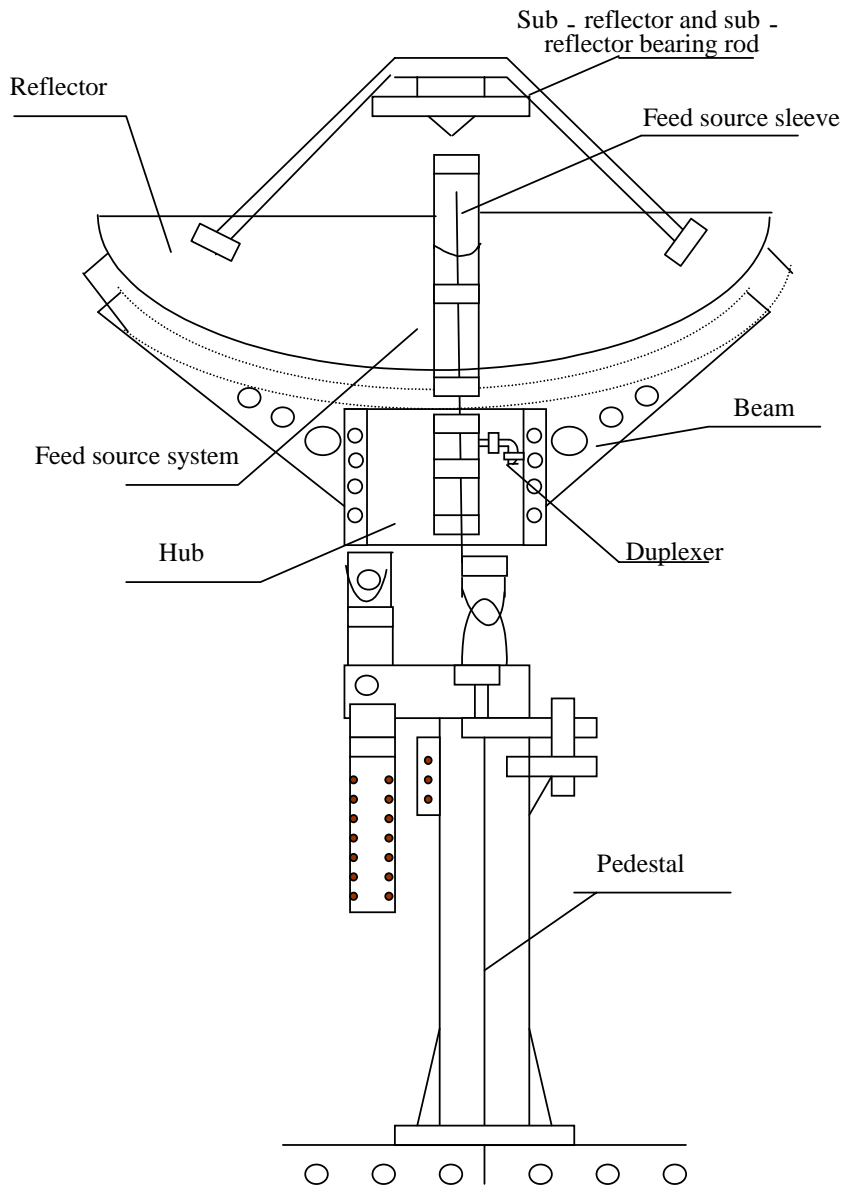

Fig. 2 Completed antenna
2.2. Completed antenna illustration (See Fig. 2)